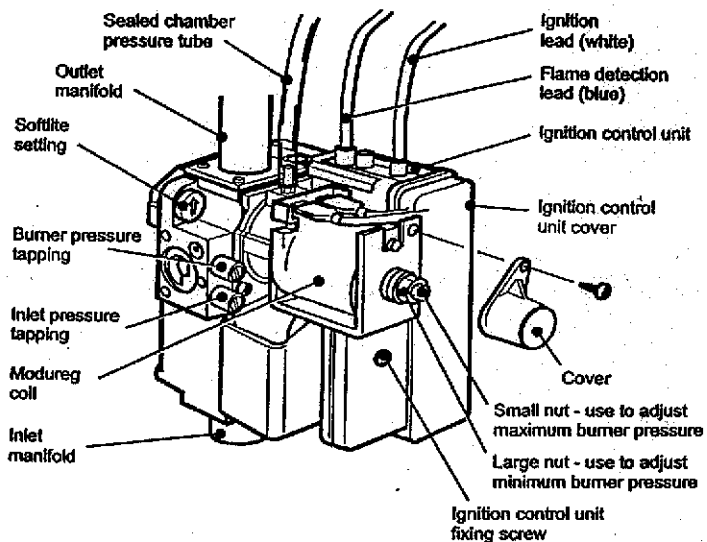

Fig. 19
9.7 GAS VALVE (See Fig. 19)
- 10 Re-assemble in reverse order, the polarity of the modureg leads is not important. **Note:** The 'earth' tag is not used. Check the Softlite setting (see Fig. 19) arrow up for Propane and Natural gas.
Turn the minimum burner pressure adjustment nut (see Fig. 19) to obtain the required burner pressure (refer to section 1.2).
Turn the maximum burner pressure adjustment nut (see Fig. 19) to obtain the required burner pressure (refer to section 1.2).
The ignition control unit is mounted on the right hand side of the gas valve (see Fig. 19) and is connected directly to the valve via a 5-way plug. There are no servicable parts inside the plastic enclosure.